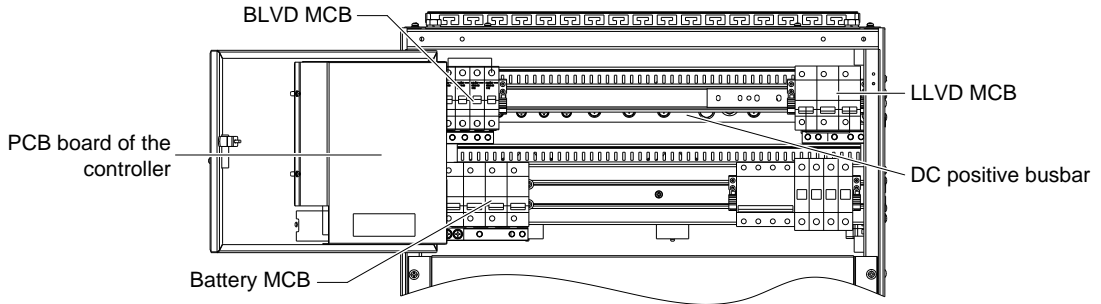

Figure 2-11 Connection terminals
Connect the negative load cable to the upper terminal of load MCBs (LLVD MCBs and BLVD MCBs). Connect the positive load cable to the DC positive busbar, as shown in Figure 2-11.
- 1) Connect one end of the negative battery cable to the upper terminal of the battery MCB. According to *Appendix 6 Wiring Diagram*, connect one end of the positive battery cable to the positive busbar. The connection terminals are shown in Figure 2-11.